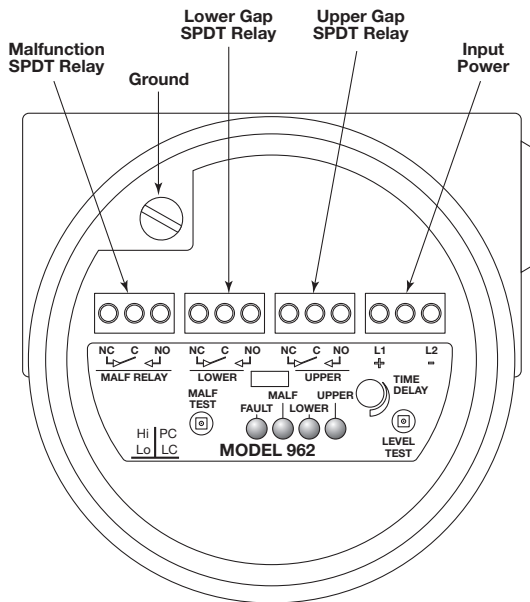

Figure 10
4. Refer to Figure 10. Connect power leads to proper terminals. Model 962 is available for AC power (102 to 265 VAC) or for DC power (12–28.4 VDC)
5. Connect desired relay wiring as shown in Figure 10.